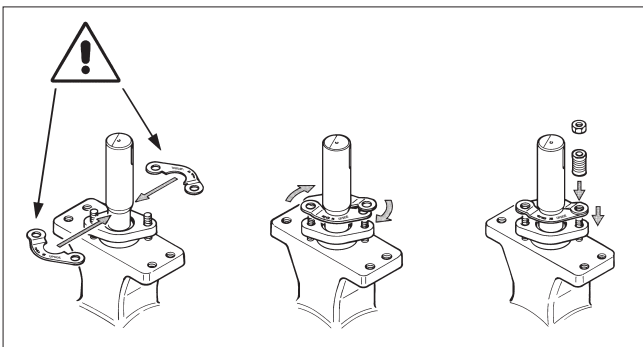

Fig. 10 Mounting the retaining plate
- Unfasten the nuts (25) and remove the disc spring (TA-Luft) sets (43), the retaining plates (42) and the gland (9).
- Remove old packing rings (20). Do not damage the surfaces of the packing ring counterbore and shaft. It is not necessary to change anti-extrusion ring (22).
- Mount the retaining plates with the text UPSIDE on top (see Fig. 10).